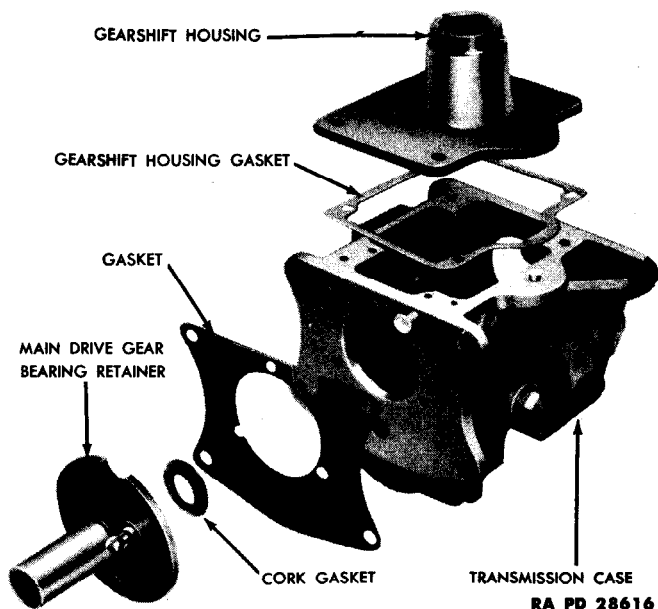

Figure 12 — Transmission Case and Gearshift Housing — Exploded View
(1) **TRANSMISSION CASE ASSEMBLY** (fig. 12). Inspect the case and gearshaft housing for cracks or damage of any kind. Cracked or damaged units must be replaced.